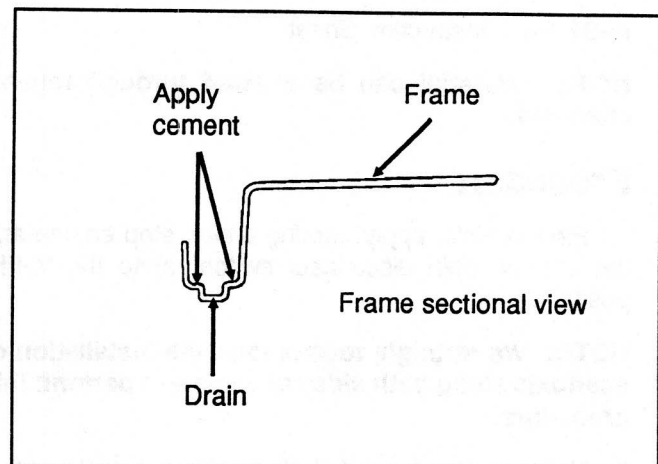

Figure 4
15. Clean frame with a steel brush fixed to a drill which maximum speed must be 1000 rpm. See figure 4.
16. Apply cement on rubber strip, on each side of drain, on frame surface, as well as on the bottom and top sections of frame, then allow cement to dry during 5 minutes. See figure 4.